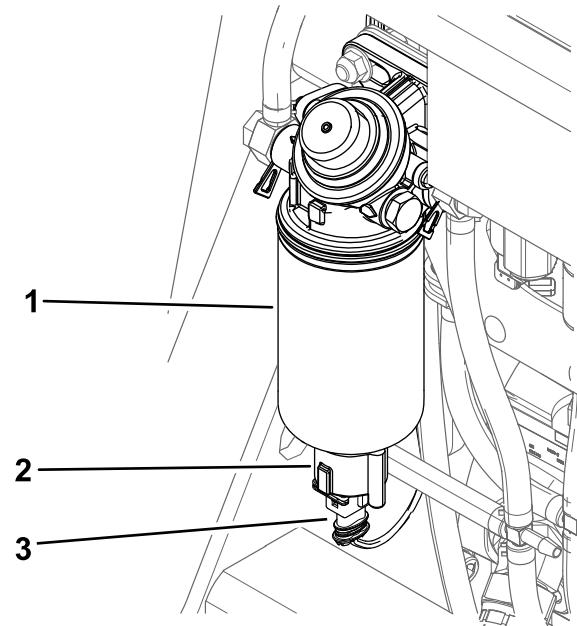

Figure 54
6. Disconnect the wire harness from the water separator (Figure 54).
7. Unscrew the switch from bottom of the filter canister and allow the water to drain (Figure 54).
8. Install the switch (Figure 54).
9. Connect the wire harness to the switch (Figure 54).
6. Unscrew the switch and drain the water separator (Figure 54).